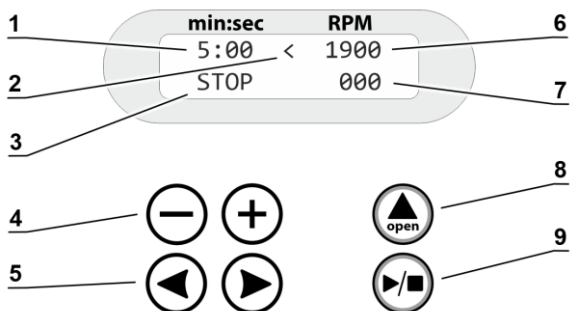

Figure 2. Control panel
- Set time (min:sec, fig. 2/1), parameter selection indicator < or > (fig. 2/2) and set speed (fig. 2/6) in the top row.
- Indication **STOP** (fig. 2/3) and current speed (fig. 2/7) in the bottom row.
- 5.2.2 Open the protective lid of the unit by pressing the ▲ **open** (fig. 2/8). Display shows the **OPEN** indication.
- 5.3.1 Using the ◀ and ▶ **SELECT** keys (fig. 2/5), choose between time and homogenization speed. The < or > indicator (fig. 2/2) marks the selected parameter.
- 5.3.2 Using the + and - keys (fig. 2/4), set the time (fig. 2/1) and speed (fig. 2/6) of the operation. Hold the key pressed to change the values faster.
- 5.4.1 Press the ►/■ **RUN/STOP** key (fig. 2/9) to start homogenization. Display shows the **RUN** indication (fig. 2/4) and current speed (fig. 2/7). Timer starts the countdown when set RPM is achieved. Speed can be changed during the operation.